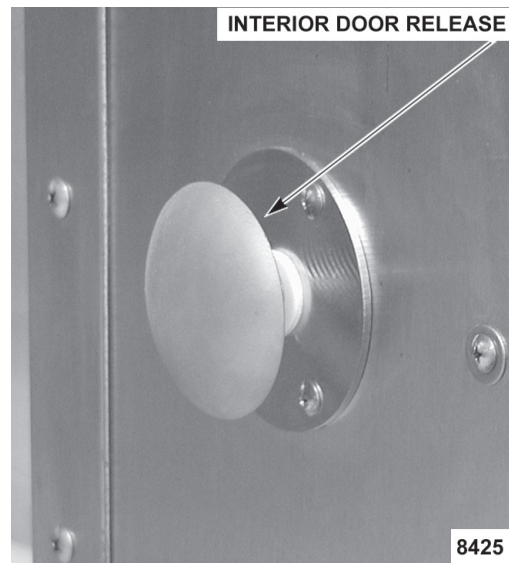

Fig. 7
3. Check interior door release (Fig. 7) for proper operation.